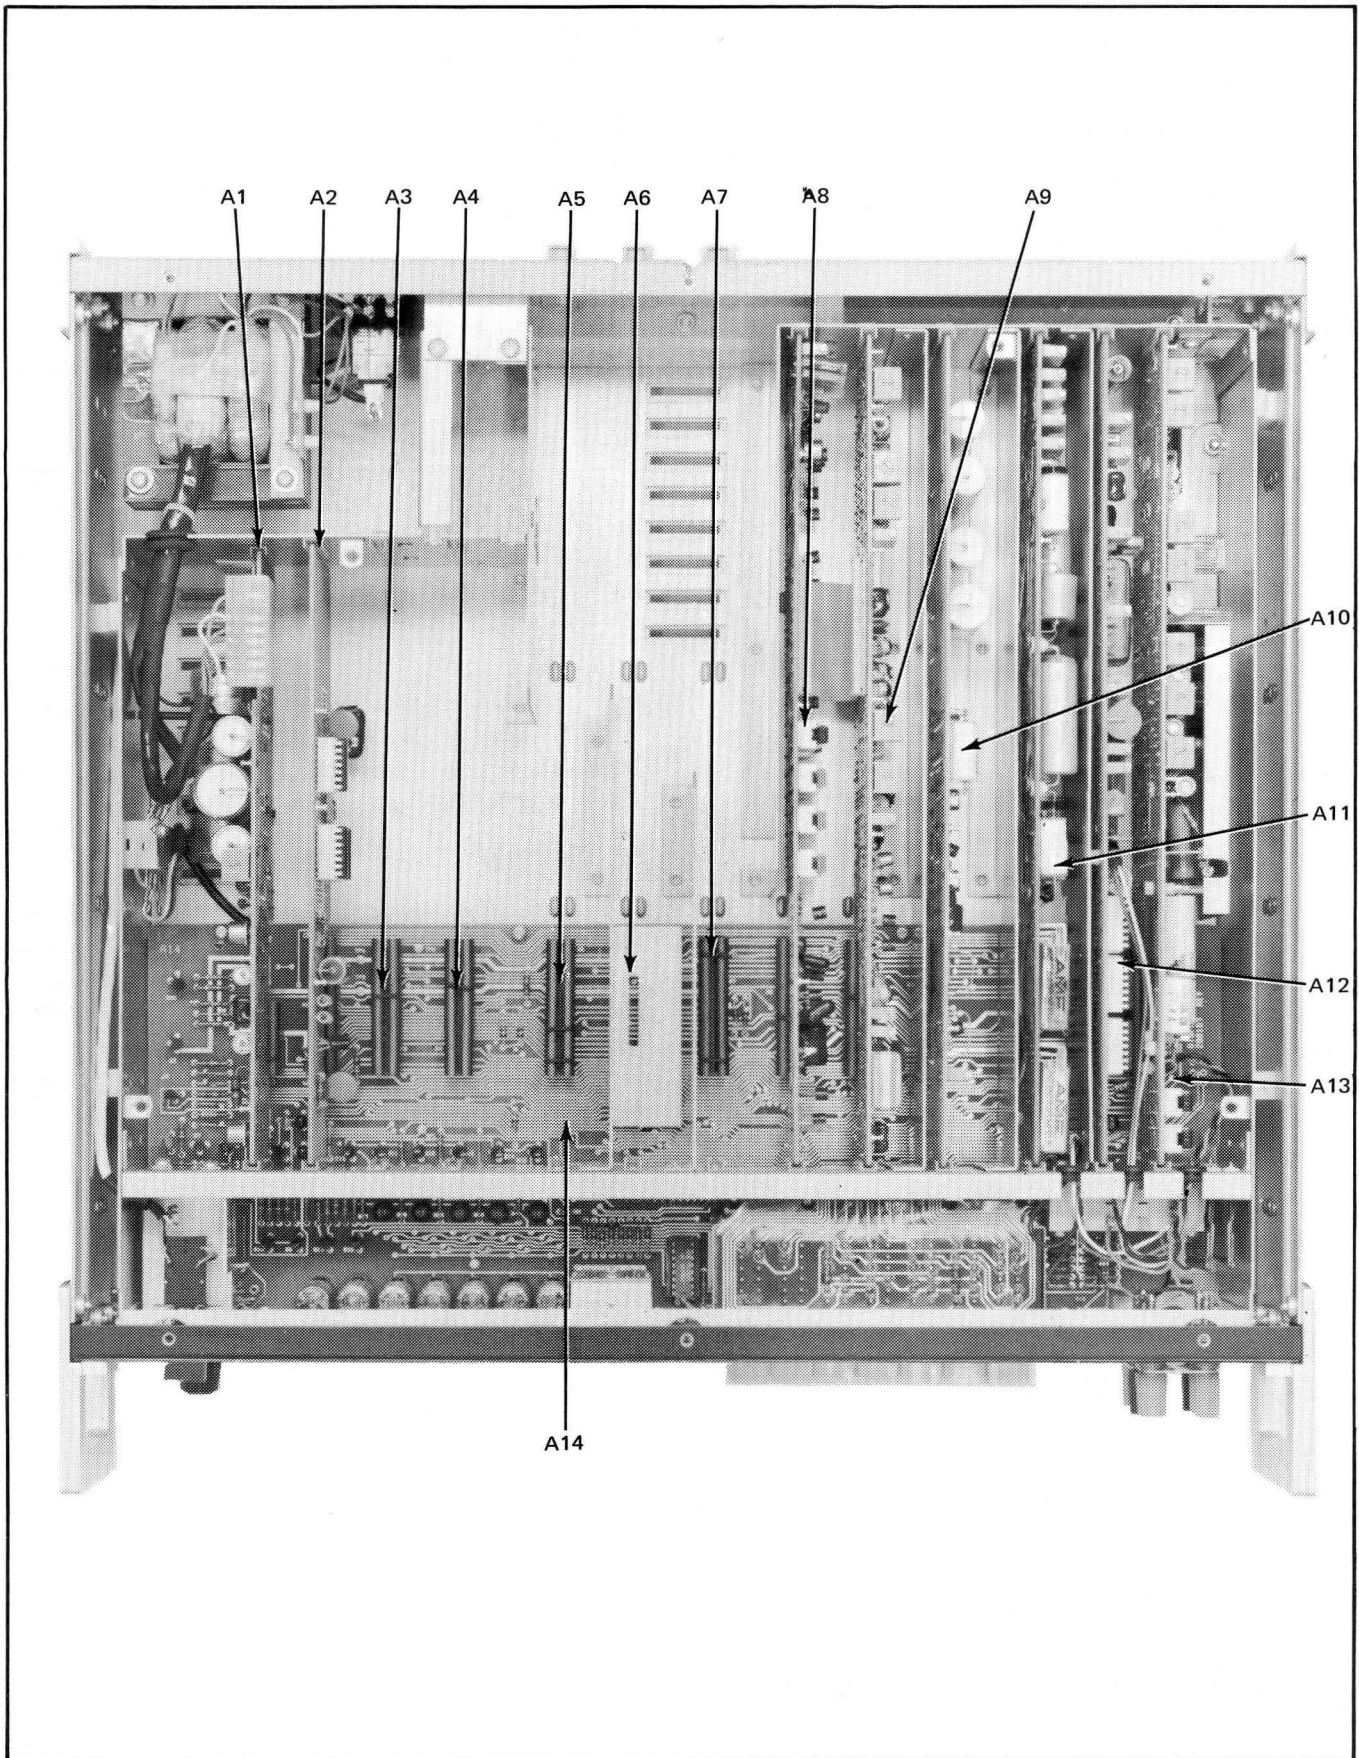

Figure 4-1. ASSEMBLY LOCATIONS
- b. Remove top guard chassis by removing the four screws which hold it in place. Access is now provided to the plug-in assemblies shown in Figure 4-1.